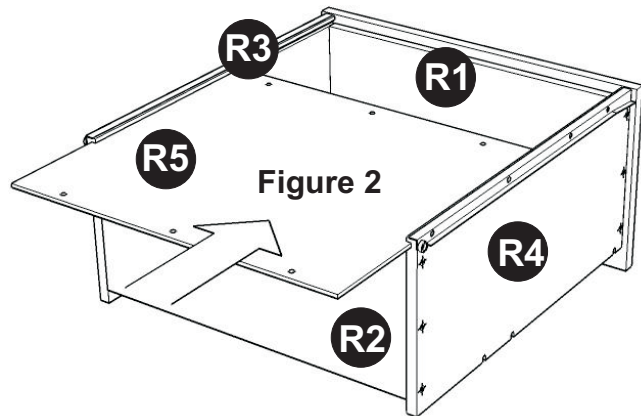

Figure 2
Insert Adjustable Pins into side panel and middle panel at the desired level (See figure 2), then place Shelf (J) into position.
Slide Q5 into the grooves in Q3 and Q4. Be sure to push Q5 all the way forward so it meets Q1. (see Figure 2)
Slide R5 into the grooves in R3 and R4. Be sure to push R5 all the way forward so it meets R1. (see Figure 2)